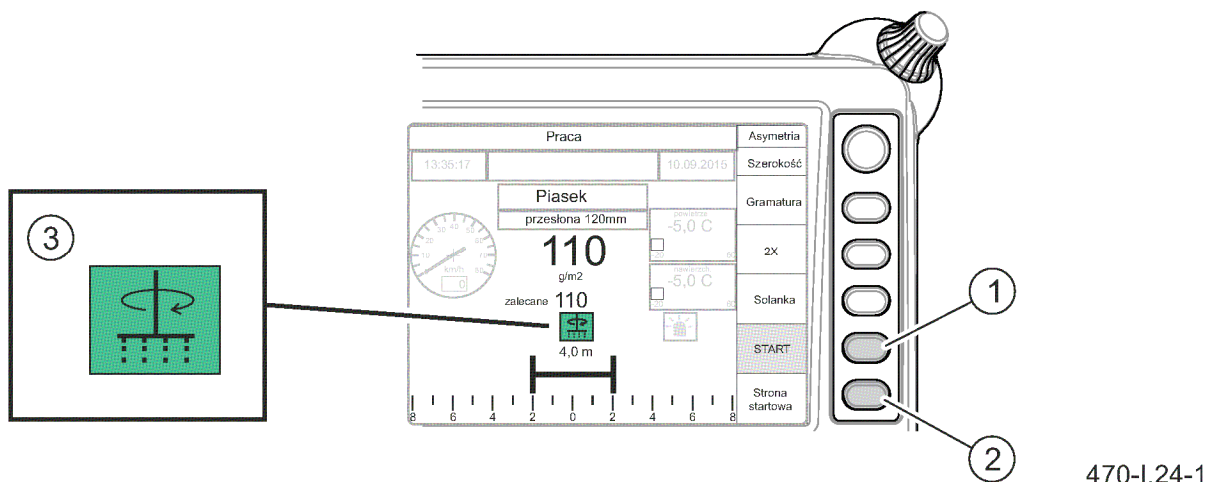

FIGURE 4.23 Stopping of spreading
- (1) - spreading activation/deactivation push-button;
- (2) - return to home page push-button;
- (3) - indicator light of activated spreading
On control panel working page ("Operation") (FIGURE 4.23), switch off spreading by means of push-button (1). Indicator light (3) will go out when the spreading disc drive and the belt conveyor are stopped. Next, go to "Start" home page by means of push-button (2).